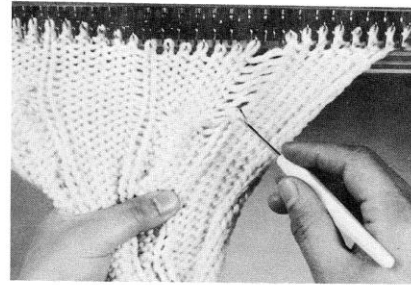

Fig.111
- g) Using the latch needle tool knit up the ribbing stitch and place it back on the empty needle, and repeat for remaining three empty needles as shown in Fig.111.